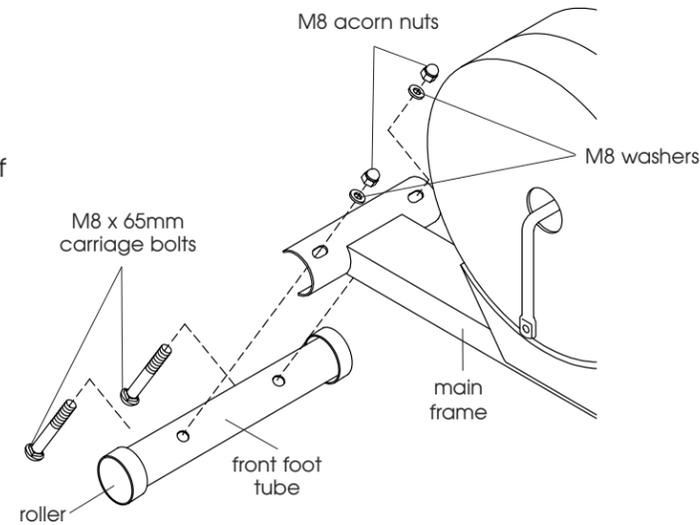

Figure 1 - Install Front Foot Tube
- Remove (2) Carriage Bolts, (2) Washers and (2) Acorn Nuts from the Front Foot Tube.
- Position Front Foot Tube (with rollers) in front of Main Frame and align bolt holes, see Figure 1.
- Attach Front Foot Tube with (2) Carriage Bolts, (2) Washers and (2) Acorn Nuts that were removed in Step 1a. Tighten bolts with Multi Hex Tool provided.